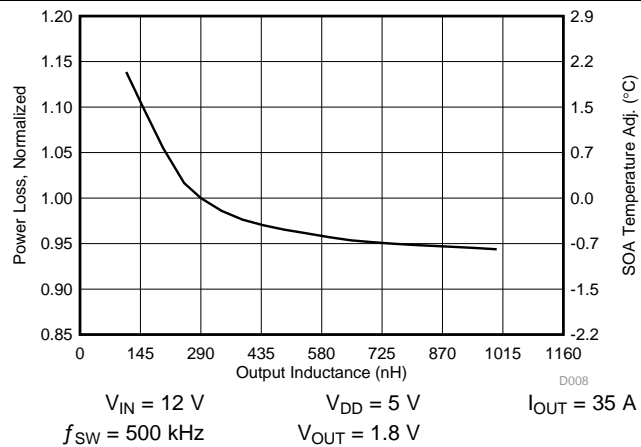

Figure 11. Normalized Power Loss vs Output Inductance
- Normalized power loss for output inductor ≈ 1.01 (Figure 11)
- SOA adjustment for output inductor $\approx 0.25^\circ\text{C}$ (Figure 11)